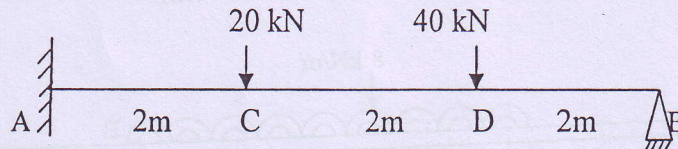

Figure 6
- Que. - 3 (A) Analyses the Beam with M_A as redundant as Shown in figure 6. Using Consistent Deformation Method, draw B.M.D. 04